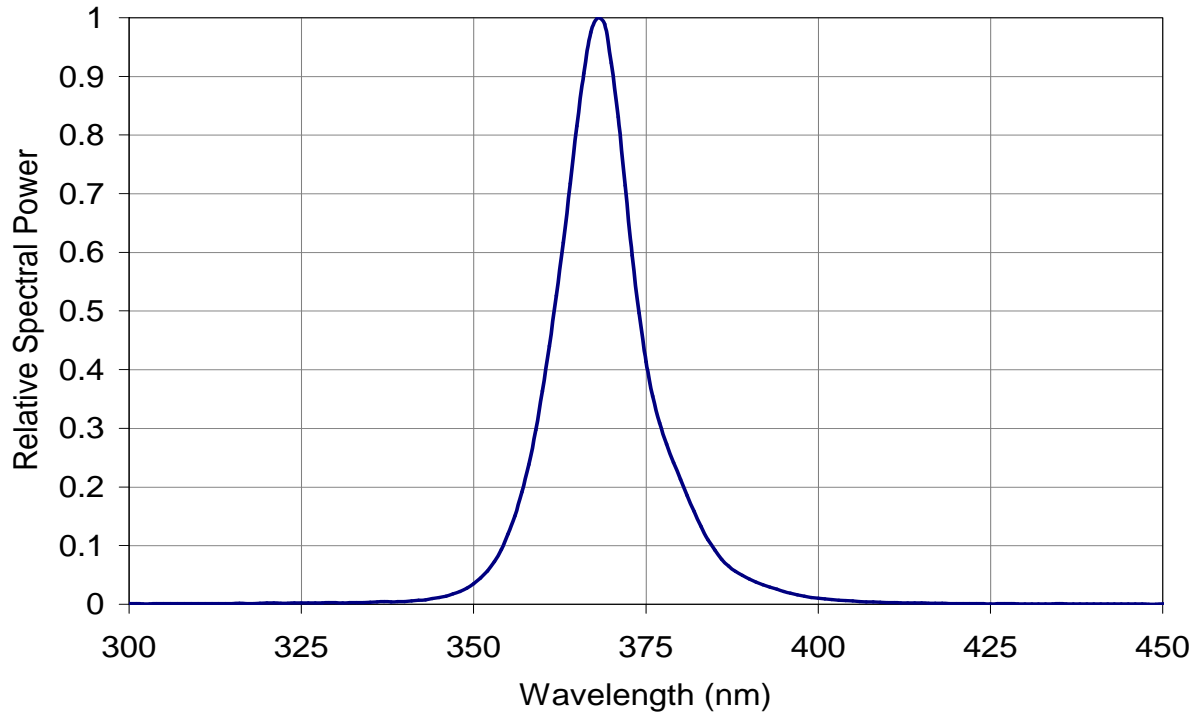

Figure 5: Typical relative spectral power vs. wavelength @ Tc = 25°C
- Solder conditions per JEDEC 020D. See Reflow Soldering Profile Figure 5.